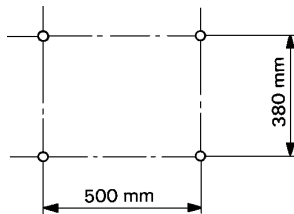

Fig. 13
- 1) This Condenser Unit is provided with four mounting holes. Secure the Condenser Unit with four bolts. See Fig. 13.